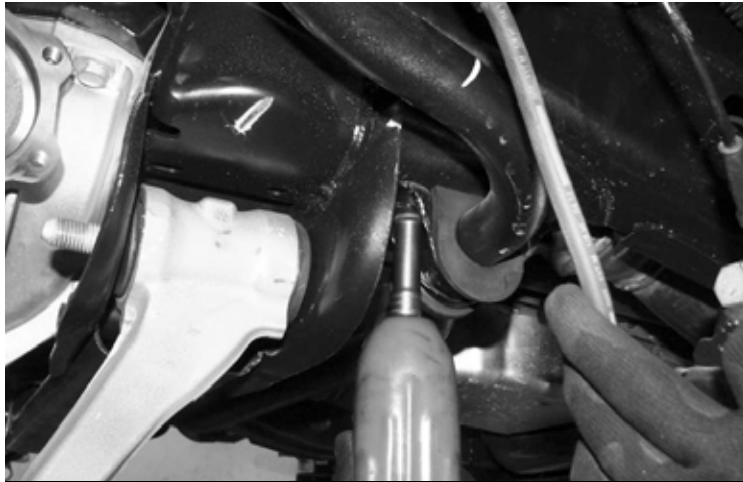

FIGURE 18 - STEP 12
12. Remove sway bar from vehicle, discard hardware. **SEE FIGURE 18**